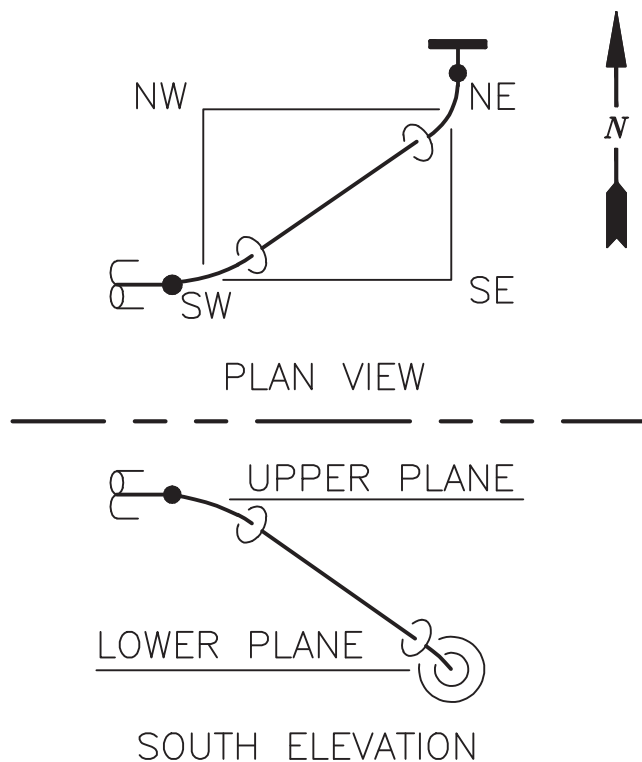

FIGURE 13.27 Visualization aids for rolling offsets.
plan and elevation views of the rolling offset shown in Figure 13.27. In the plan View, a box has been drawn through the centers of the two 45° elbows that form the rolling offset. Its corners have been labeled northeast (NE), southeast (SE), southwest (SW), and northwest (NW). The notes in the elevation view identify upper and lower planes which represent the change in elevation. Remember the Plan view shows north, south, east, west orientations, and the Elevation view depicts vertical changes in elevation.
The Plan view in Figure 13.27 shows that the pipe enters the box from the southwest corner and travels